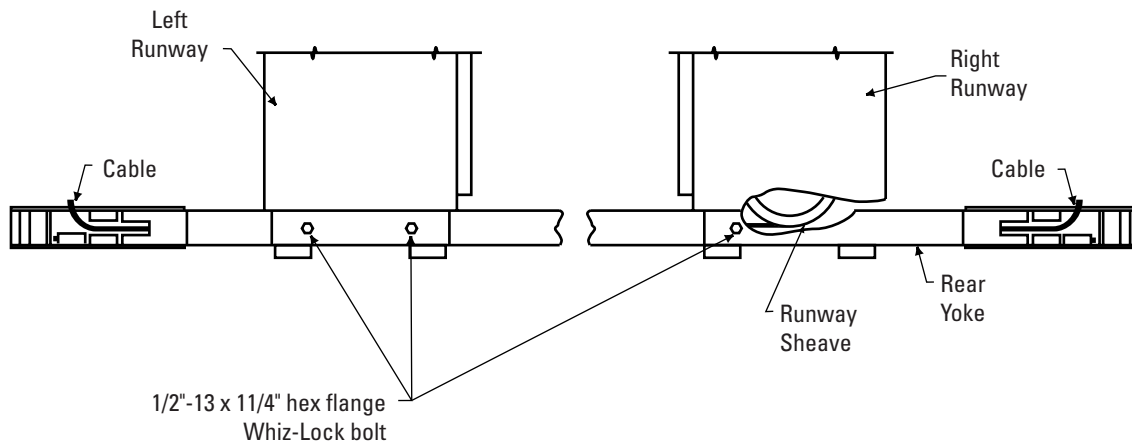

Fig. 6
- D. With the openings in the rear yoke tubes side lined up with the runway ends, align the four (4) holes in the top of the yoke tubes with the slots in the runway end plates. Bolt runways to the rear yoke using four 1/2" x 1-1/4" hex flange bolts, Fig. 6.